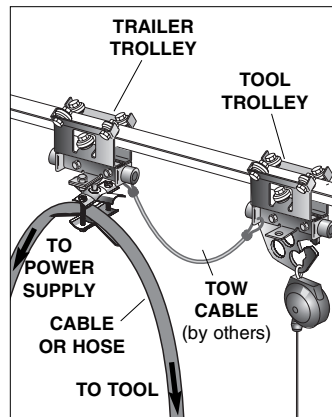

FIGURE 4
NOTE: The installation described is a curved tool rail. Therefore the primary trolley includes a tool hook. Since supplying power to a tool which travels around curves can prove difficult, a **festoon trailer trolley** may be used to facilitate management of power cord or hose. See Figure 4.
STEP 2– Slide trolley(s) onto end of track that temporarily has no end stop. If using a festoon trailer trolley, be sure it is installed between tool hook trolley and power supply. See Figure 4.